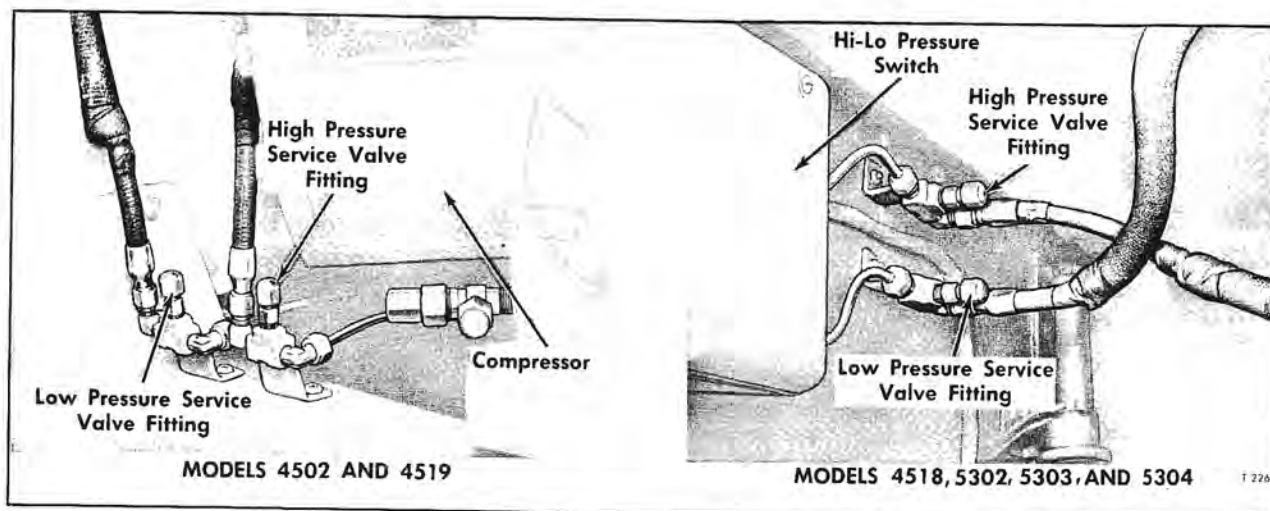
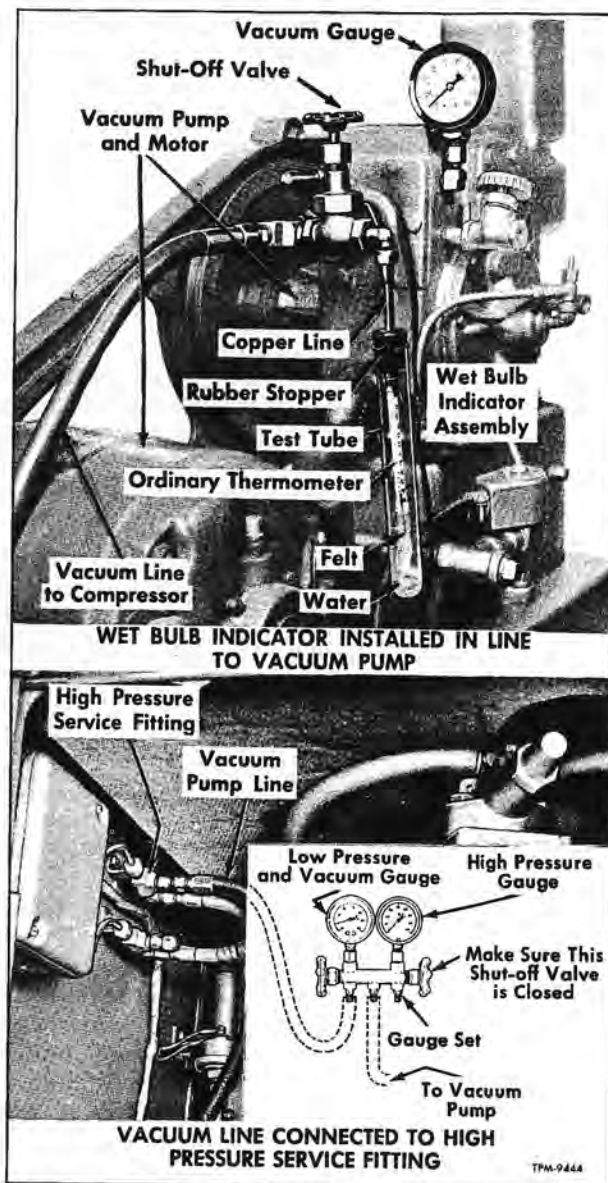

Figure 124—Refrigerant Service Fittings
Figure 126—Evacuating the System
NOTE: Figure 124 identifies high and low pressure service fittings in compressor compartment for the different coach models.
**IMPORTANT:** Make sure gauge lines are connected to respective high and low pressure service fittings. Fittings are identified for the different models on figure 124.
NOTE: Figure 126 shows vacuum line (from gauge set) connected to the high pressure service fitting. Figure 124 will identify high and low pressure fittings for various models.
2. Tee a branch line with a wet bulb indicator into vacuum pump line as shown in upper view of figure 126.
**IMPORTANT:** Before starting up vacuum pump make sure that seal and cap is tightened firmly over valve service fittings in compressor compartment that are not being used, otherwise outside air and moisture will be drawn into system. Figure 124 illustrates service fittings.